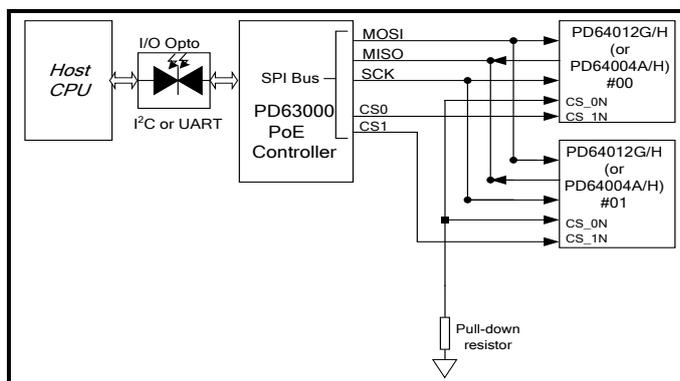

Figure 2-2: Enhanced Mode Block Diagram – Utilizing the PD63000
- PoE system based on the PD63000 PoE controller and two PoE managers ICs (PD64012G/H or PD64004A/H), as shown in Figure 2-2. PoE managers function as slaves to a PoE Controller.